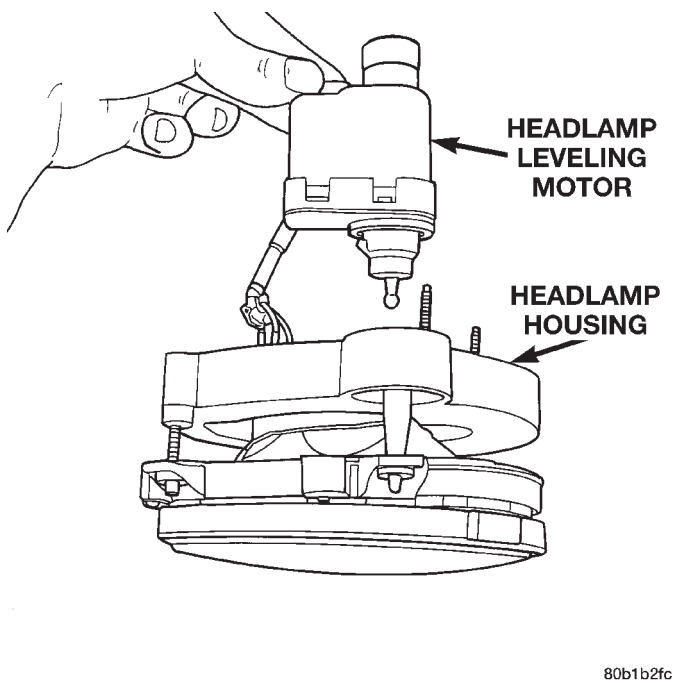

Fig. 5 Headlamp Leveling Motor
- (5) Pull the leveling motor from the headlamp housing.
- (6) Separate the leveling motor from the headlamp housing (Fig. 5).